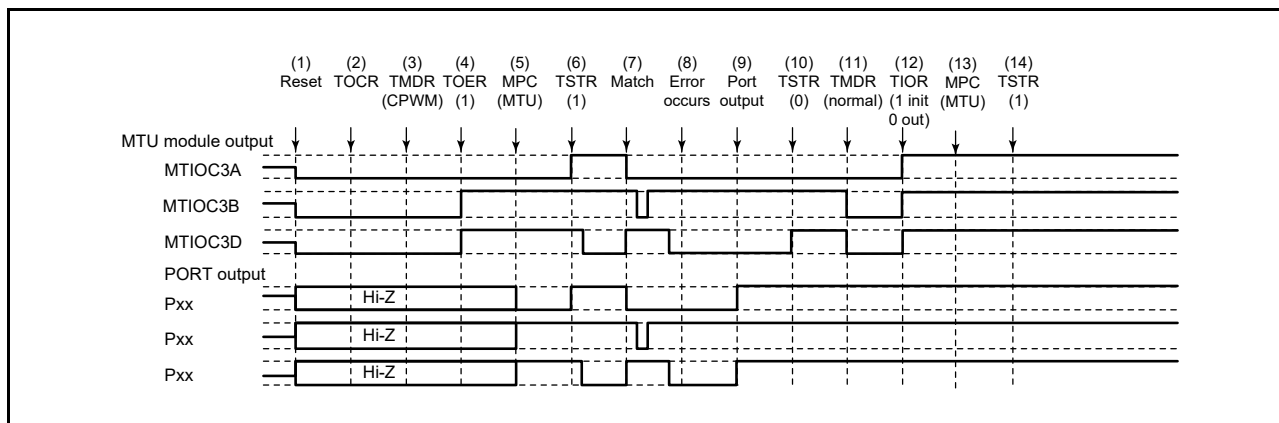

**Figure 19.163 Error Occurrence in Complementary PWM Mode, Recovery in Normal Mode**
Figure 19.163 shows a case in which an error occurs in complementary PWM mode and operation is restarted in normal mode after re-setting.
(1) to (10) are the same as in Figure 19.163.
(11) Set PWM mode 1 (MTU output goes low).
(12) Initialize the pins with the TIOR register. (In PWM mode 1, waveforms are not output to the MTIOCnB (MTIOCnD) pins. To output a specified level, make necessary settings for general output ports in the port direction registers (PDR) and port output data registers (PODR) of the I/O ports.)
(13) Set MTU output using the MPC and port mode registers (PMR) corresponding to the I/O ports.
(14) Restart operation by setting the TSTR register.
(11) Set MTU output using the MPC and port mode registers (PMR) corresponding to the I/O ports.
(12) Restart operation by setting the TSTR register.
(13) The complementary PWM waveform is output on compare match occurrence.
- (1) to (10) are the same as in Figure 19.163.
- (11) Set normal mode and make new settings (MTU output goes low).
- (12) Disable output in MTU3 and MTU4 with the TOERA register.
- (13) Select the complementary PWM output level and enable or disable cyclic output with registers TOCR1A and TOCR2A.
- (14) Set complementary PWM mode.
- (15) Enable output in MTU3 and MTU4 with the TOERA register.
- (16) Set MTU output using the MPC and port mode registers (PMR) corresponding to the I/O ports.
- (17) Restart operation by setting the TSTR register.
- (11) Set normal mode (MTU output goes low).
- (13) Select the reset-synchronized PWM output level and enable or disable cyclic output with registers TOCR1A and TOCR2A.
- (14) Set reset-synchronized PWM mode.